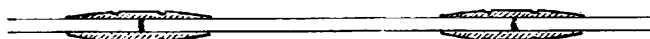

Figure 6.
3. Make one or two cuts as necessary to enable removal of damaged section. If two cuts are required, the distance between them shall not exceed 0.30 inch. If this measurement is exceeded, go to repair method in Figure 6